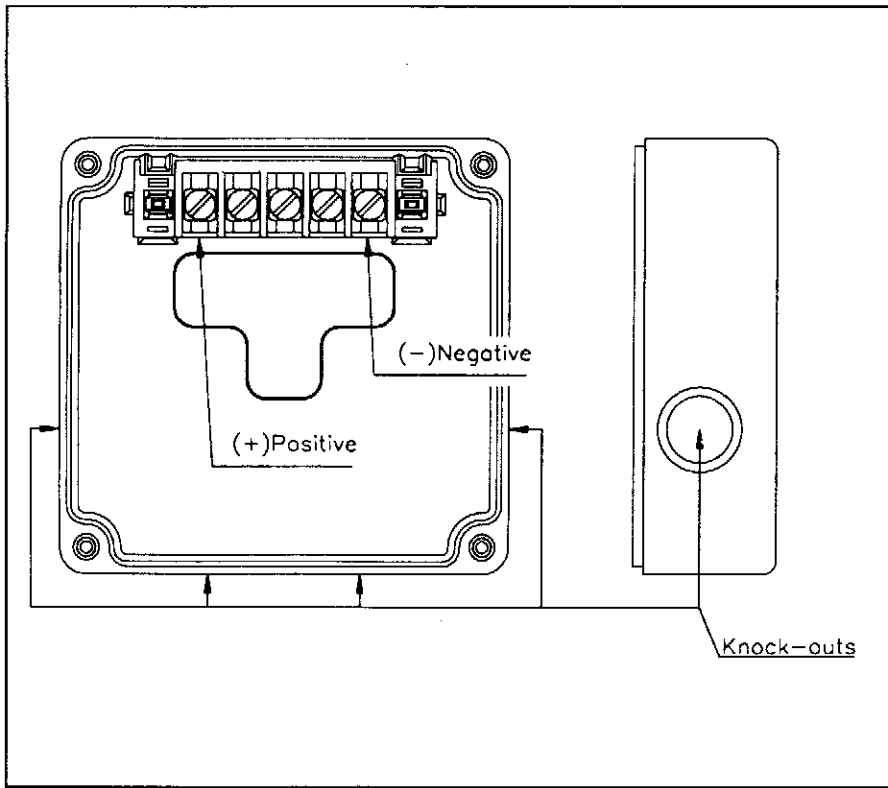
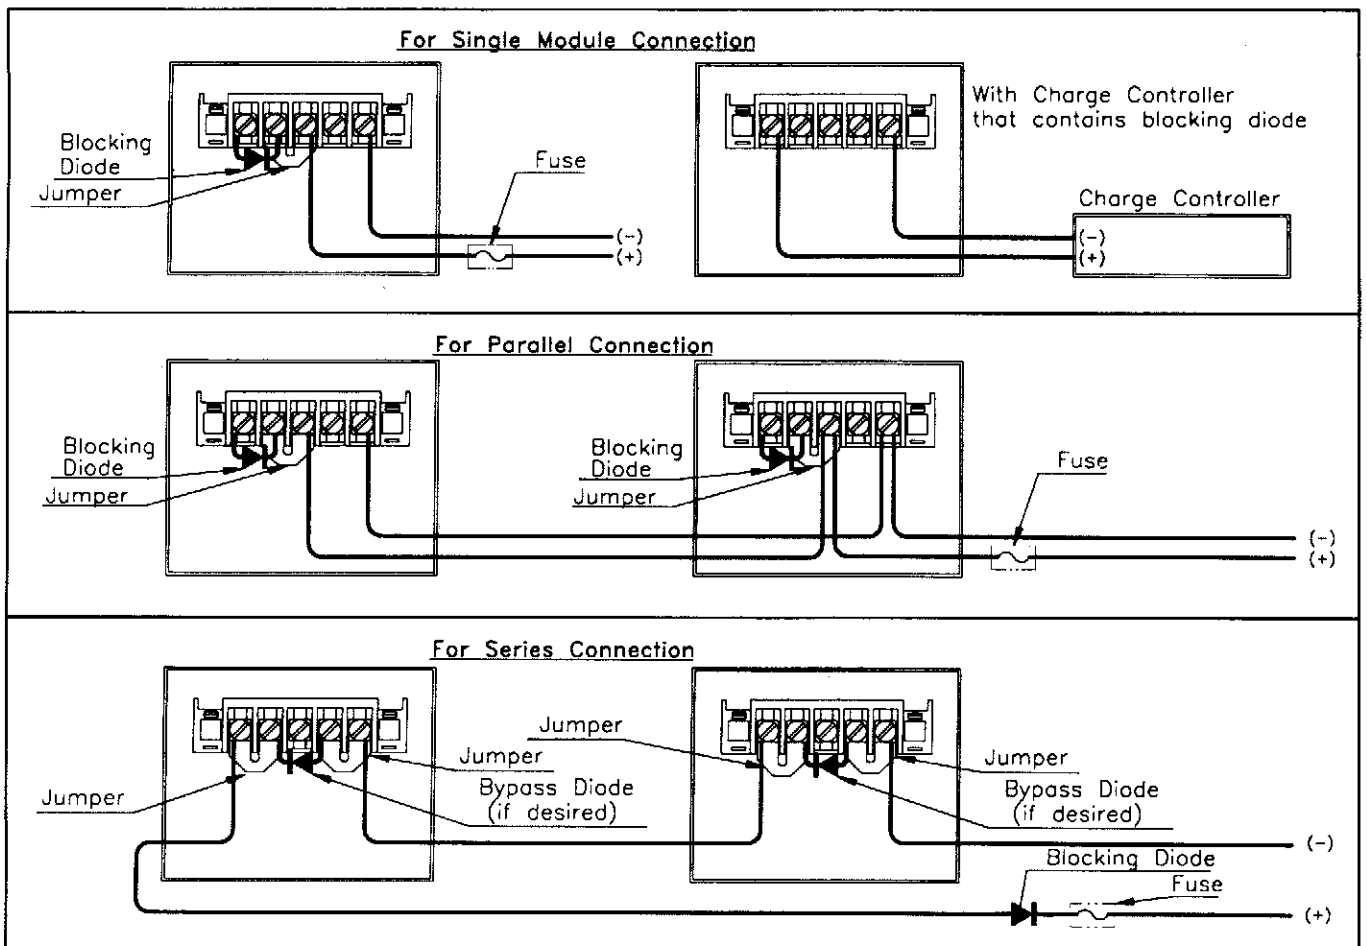

Figure 2
Figure 3
There is a wiring junction box located on the rear of each module (see Figure 2). To access the junction box, loosen the four (4) screws and lift off the cover. The junction box is equipped with four (4) knock-outs which will accept either electrical conduit (1/2" trade size) or strain-reliefs. It is not recommended to run wires through the knock-outs without the use of either strain-reliefs or conduit. You may use any combination of knock-outs which is most convenient for your installation. Use a tool such as a screwdriver to remove the knock-out. Screwdriver should be placed at the indicated (arrow) spot on the junction box. Install either a strain-relief or a conduit fitting. Follow the diagram in Figure 2 to make your wiring connections. For connecting multiple modules in series or parallel, refer to Figure 3. Reposition the cover on the junction box and tighten the four (4) screws.
For 12 volt systems it is suggested to use a blocking diode in series with each module. One of the supplied jumpers may be used to install a blocking diode in the module junction box if desired, refer to Figure 3.
Every solar module includes a bypass diode across each cell, which results in reduced power loss under partial shadow conditions. When two (2) or more modules are connected in series, a bypass diode can be installed in the module junction box using the supplied jumpers, providing further shadow tolerance (see Figure 3). For assistance contact United Solar Systems Corp.